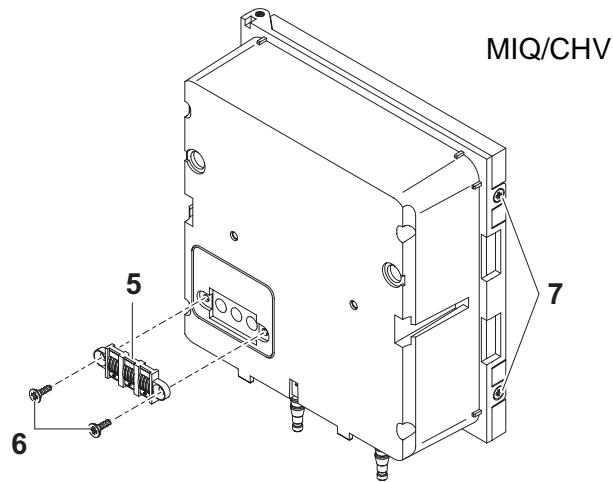

Fig. 3-2 Mounting the contact base
| 4 | Attach the contact base (pos. 5 in Fig. 3-2) to the front module with the two plastic tapping screws (pos. 6). |
| 5 | Remove the two countersunk screws (pos. 7 in Fig. 3-2) on the front module and swing open the module lid. |